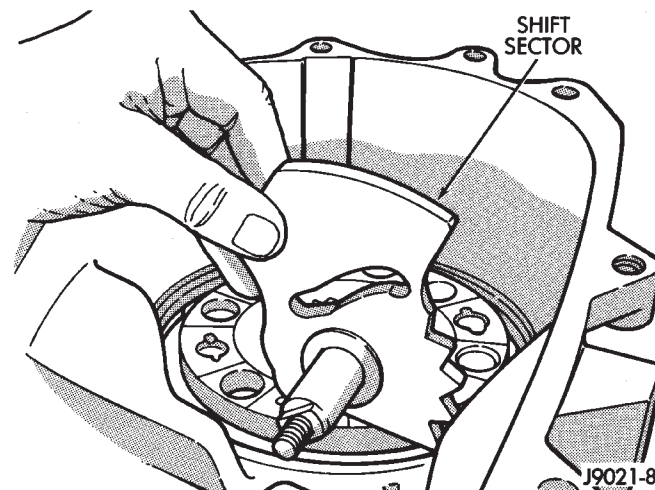

Fig. 61 Shift Sector Installation
- (2) Install shift sector in case (Fig. 61). Lubricate sector shaft with transmission fluid before installation.